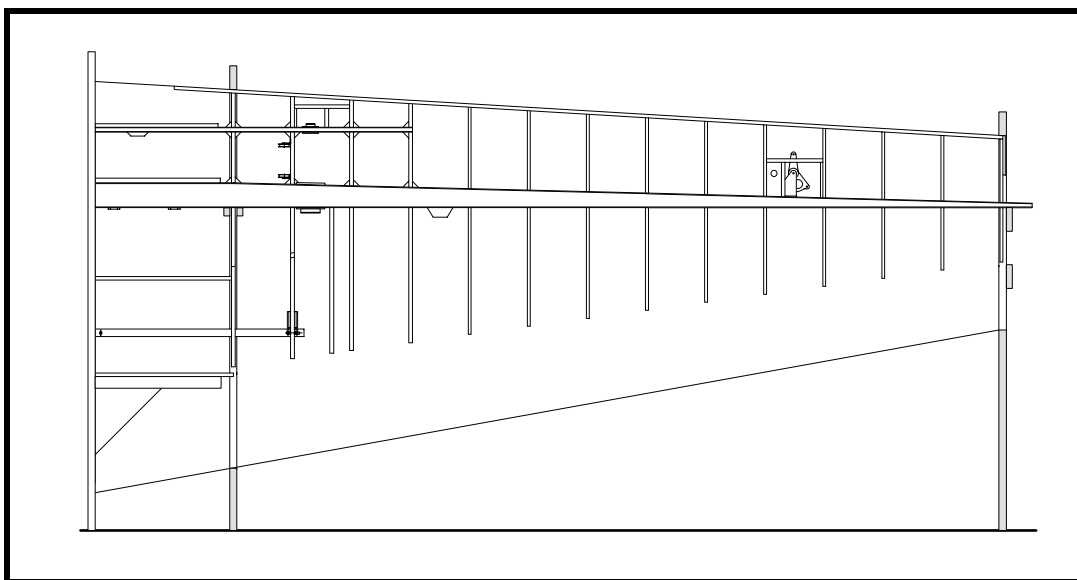

Figure 14
- ☐ Clamp the flap supports (P/N 765) and the flap torque tube in place on Sta. 2 wing rib. See Figure 14.